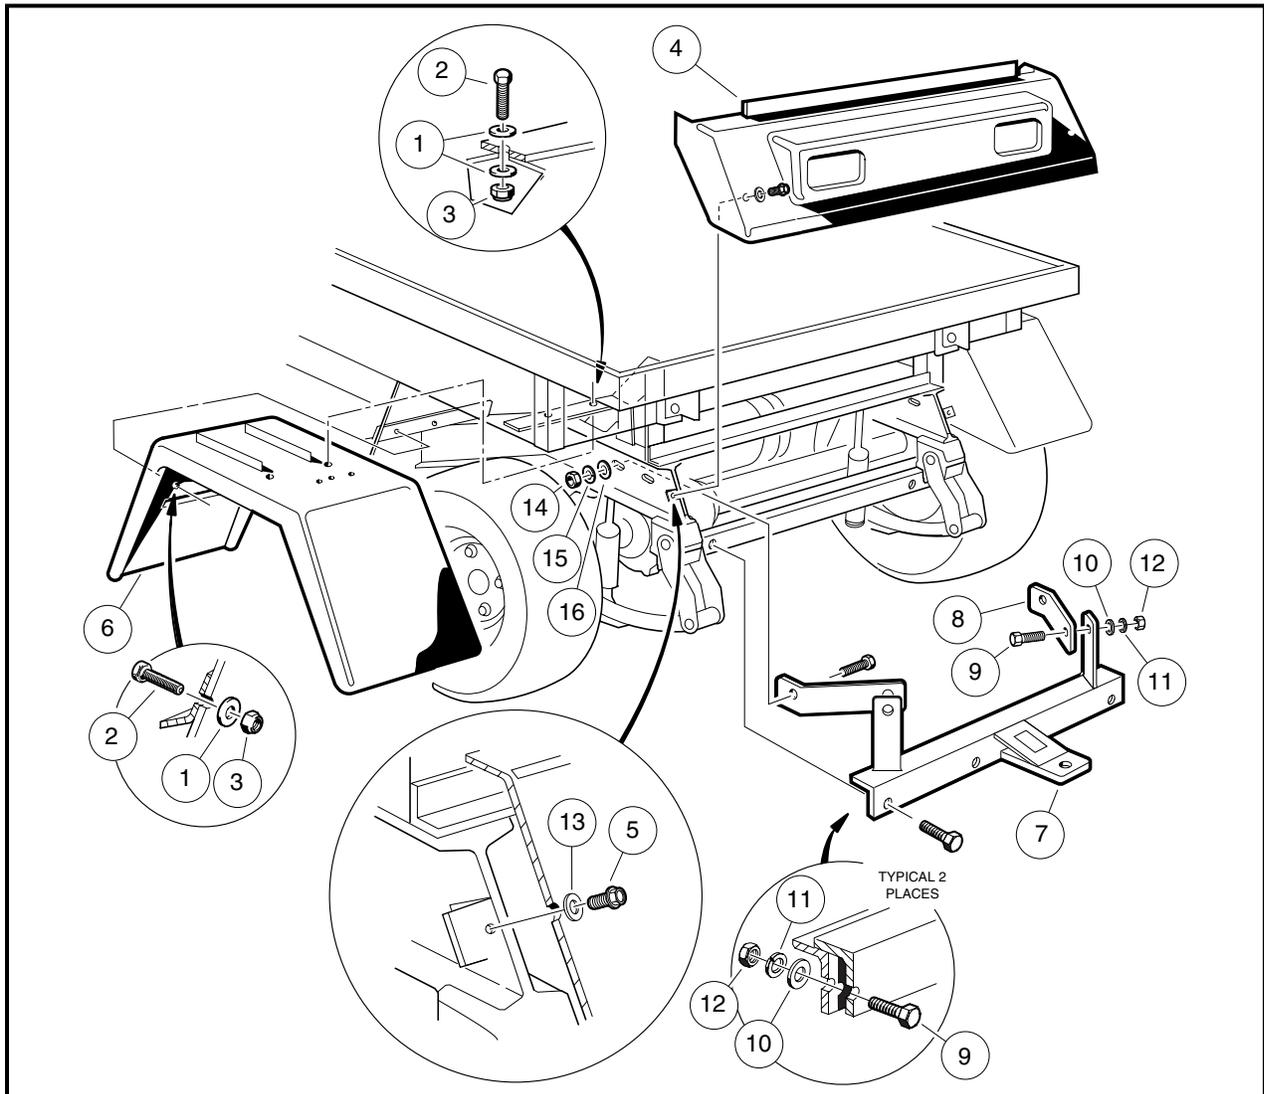
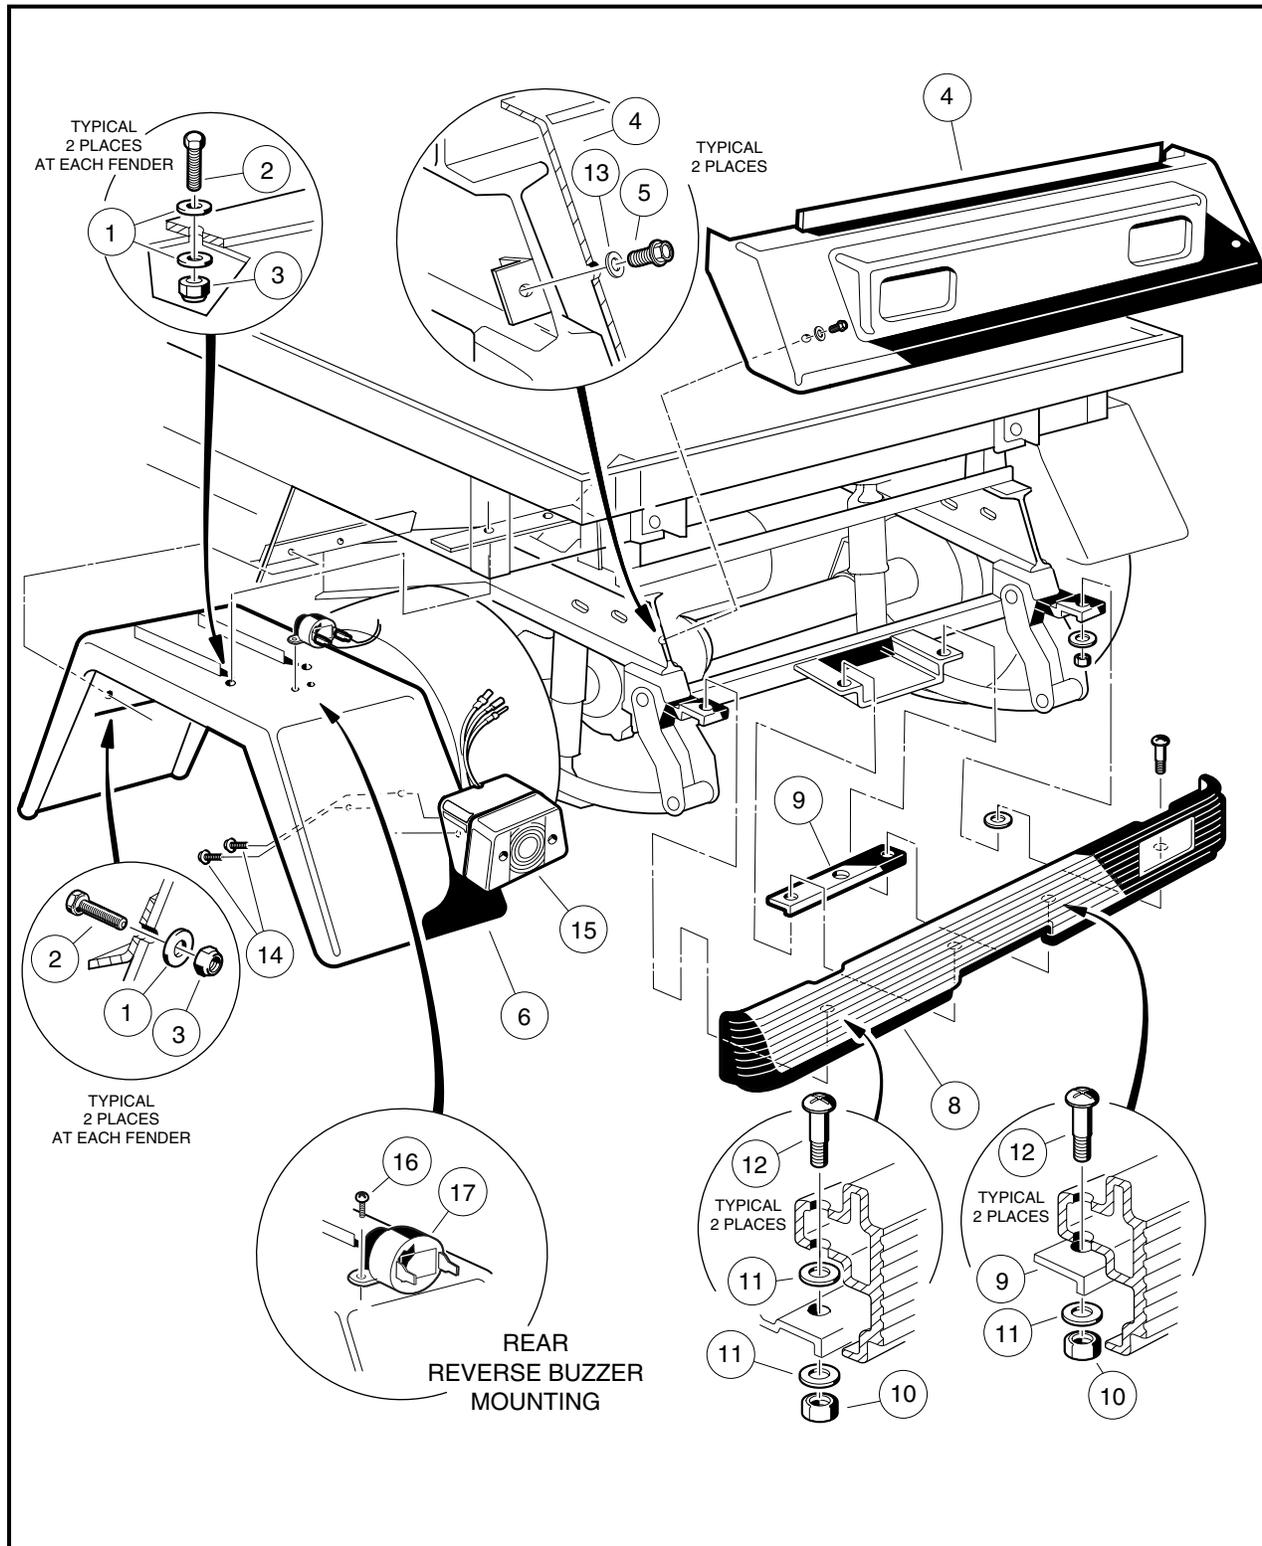

Figure 4-5 Rear Fender, Trailer Hitch, and Tailskirt – Turf 1, 2, Carryall 1, 2, and 2 Plus
Figure 4-6 Rear Fender and Tailskirt – Turf 6 and Carryall 6
- 1.1. Remove the two screws (14) that secure taillight (15) to the rear fender (**Figure 4-6, Page 4-12**).
2. Remove two nylon lock nuts (3), flat washers (1), and 1/4 x 1 bolts (2) from front of fender (6) (**Figure 4-5, Page 4-11 or Figure 4-6, Page 4-12**).
3. Remove two nylon lock nuts (3), flat washers (1), and 1/4 x 1 bolts (2) and flat washers (1) from the top of fender (6) (**Figure 4-5, Page 4-11 or Figure 4-6, Page 4-12**).
- 4.1. Remove pan-head screws (16) connecting reverse buzzer (17) to rear fender (6) and disconnect the two wires from the reverse buzzer (**Figure 4-6, Page 4-12**).
5. Remove fender (6) from vehicle (**Figure 4-5, Page 4-11 or Figure 4-6, Page 4-12**).
2. Where the hitch (7) is mounted to frame, remove two nuts (12), lock washers (11), flat washers (10), and bolts (9) (**Figure 4-5, Page 4-11**).
3. Where the hitch (7) is mounted to hitch brace (8), remove the nut (12), lock washer (11), flat washer (10), and bolt (9).
4. Remove hitch (7) from vehicle.
1. Install trailer hitch (7) in the reverse order of removal. (**Figure 4-5, Page 4-11**). Tighten hardware to 15 ft-lb (20.3 N·m).
1. Remove two thread-forming screws (5) and flat washers (13) from tailskirt (4) and lift tailskirt from vehicle frame (**Figure 4-5, Page 4-11 or Figure 4-6, Page 4-12**).
1. Insert upper edge of tailskirt (4) under, and in front of, back edge of rear body (**Figure 4-5, Page 4-11 or Figure 4-6, Page 4-12**).
2. Align holes in tailskirt (4) with holes in vehicle frame. Position tailskirt flush against frame.
3. Install two thread-forming screws (5) and flat washers (13) in tailskirt and tighten to 55 in-lb (6.215 N·m).
1. Remove four lock nuts (10), six flat washers (11), four phillips bolts (12), and mounting plate (9) from rear bumper (8) (**Figure 4-6, Page 4-12**).
1. Install the rear bumper in the reverse order of removal. Tighten nuts to 65 in-lb (7.3 N·m) (**Figure 4-6, Page 4-12**).